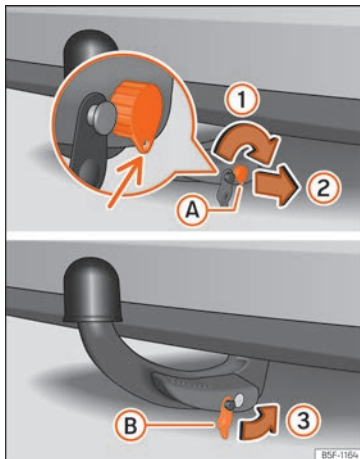

Fig. 180 Putting the tow hook in place. Step 2.
- Turn the key to the right just half a turn, until the hole in the key faces downwards »» Fig. 180 ①.
- Remove the key ②.
- Place the cover ③ on the lock ③ »» Fig. 180 »» ⓘ.